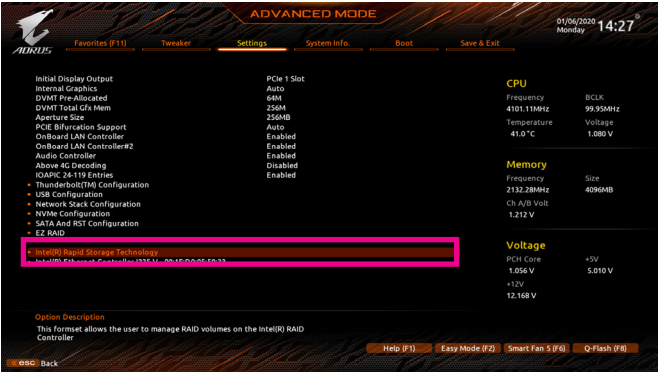

Figure 7
After the system reboot, enter BIOS Setup again. Then enter the **Settings\IO Ports\Intel(R) Rapid Storage Technology** sub-menu (Figure 7).